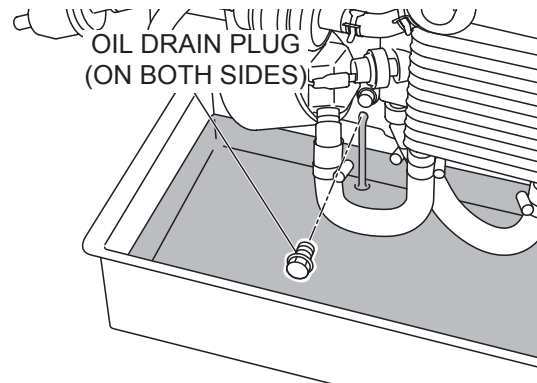

Figure 17. Draining Engine Oil
1. Drain the engine oil while the oil is warm (Figure 17).
2. Remove the oil drain bolt and sealing washer and allow the oil to drain into a suitable container (Figure 17).